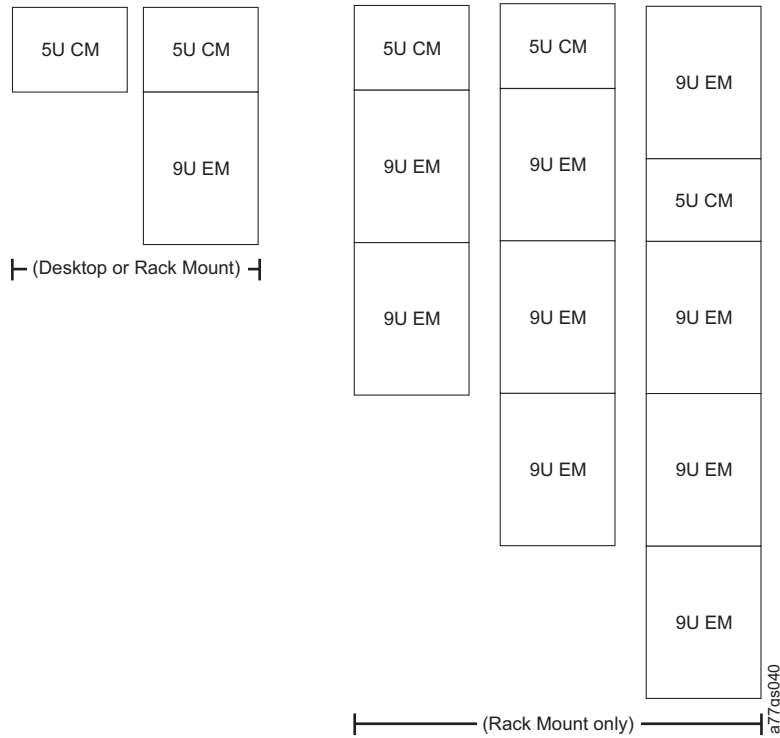

Figure 3-13. Recommended library configurations
2. Refer to Figure 3-13 on page 3-13 and determine which library module is installed on the bottom.
Refer to Figure 3-13 on page 3-13 and select one of the recommended configurations for your library installation.